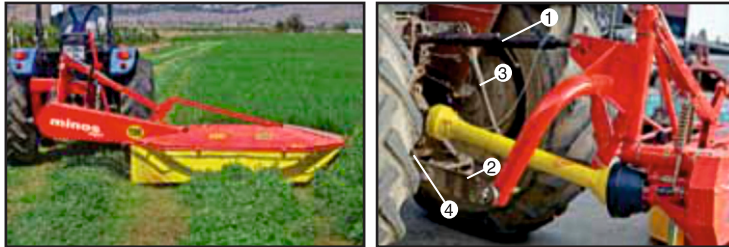

Figure 4- Connection to the tractor
Firstly connect the lower non adjustable arm then adjustable arm at the end connect upper connection arm. While disconnecting the machine do the opposite. The machine should be positioned as near to the tractor as possible, for using the whole working width (Fig. 4).
- The main holder on the machine can be connected to the three point hitch system while the tractor is parallel to the ground as shown in the (Fig.4).
- Connect the prescribed P.T.O shaft and secure the P.T.O shaft connection by a chain (Fig.4).